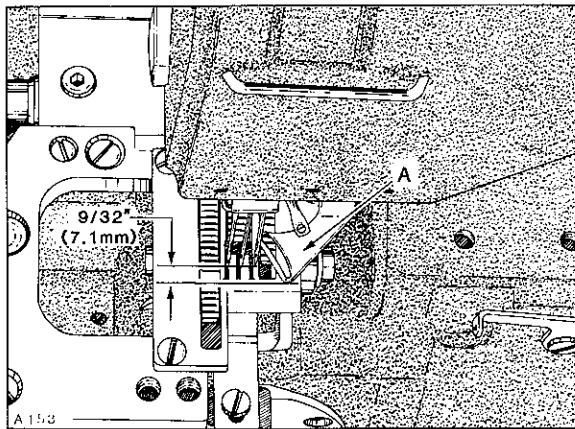
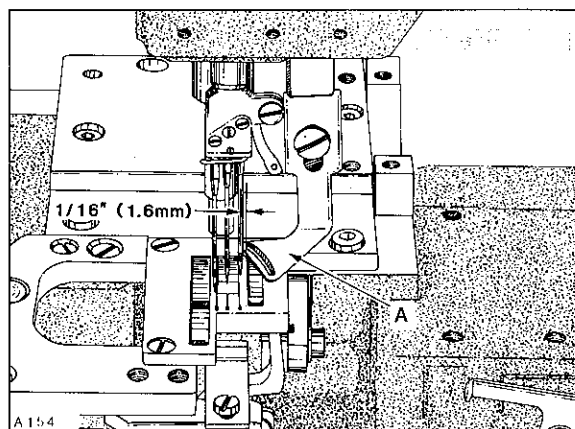
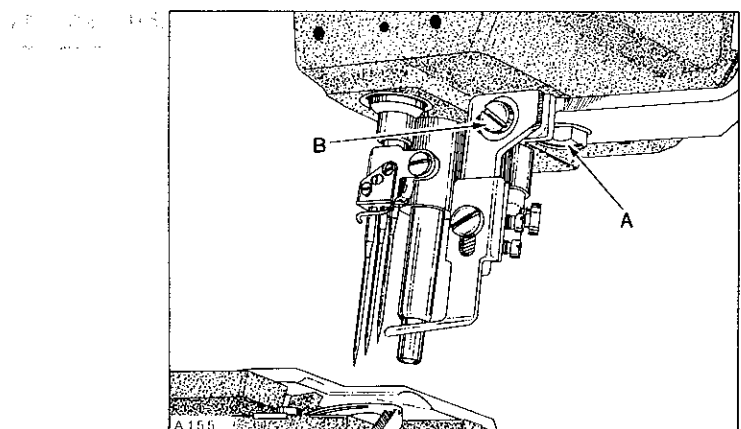

Fig. 23
Fig. 24
Fig. 25
Stationary spreader thread guide (A, Fig. 23) should be positioned with its outer front edge 9/32 inch (7.1mm) to the front of the centerline of right needle. The left rear edge of the (banana shaped) SLOT in guide (A), should be positioned 1/16 inch (1.6mm) to the right of the centerline of right needle, as shown in Figure 24. Front to rear adjustment can be made by loosening screw (A, Fig. 25) while left to right adjustment can be made by loosening screw (B). When stationary spreader thread guide is properly set, tighten screws (A and B) securely.